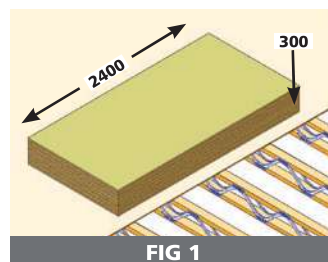
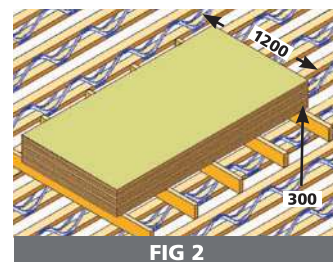

FIG 1
FIG 2
- 14 The maximum load of sheet materials temporary stored on the Posi-Joists™ is 250kg/m² and should not be greater than 300mm deep. This equates to 16 sheets of 18mm chipboard, 13 sheets of 22mm chipboard or 20 sheets of 15mm plasterboard. Where the sheets are stacked by hand they should span lengthways across the joists, (Fig 1), when lifted mechanically they should be seated on 5 bearers the width of which are 600mm longer than the width of the board. (Figs 2 & 3).